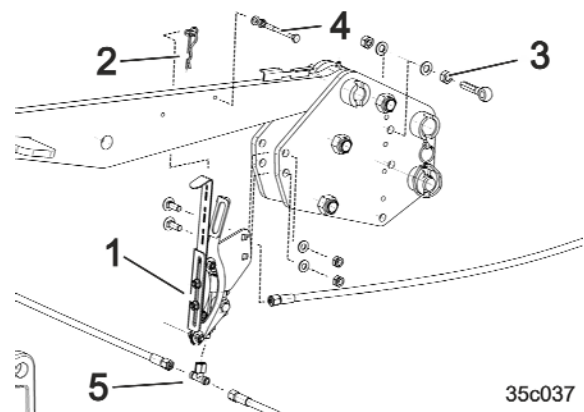

Fig. 83
6. Disconnect the hydraulic hose line from the installed T-connector (Fig. 83/5).
7. Screw on the pre-assembled valve holder (Fig. 83/1).
8. Connect the hydraulic hoses to the new T-connector on the valve (Fig. 83/5).
9. Attach the white pull rope with the eyelet onto the catch hook (Fig. 83/2).
10. Mount the eye bolt as a rope guide (Fig. 83/3).
11. Mount the actuation bolt onto the top link (Fig. 83/4).